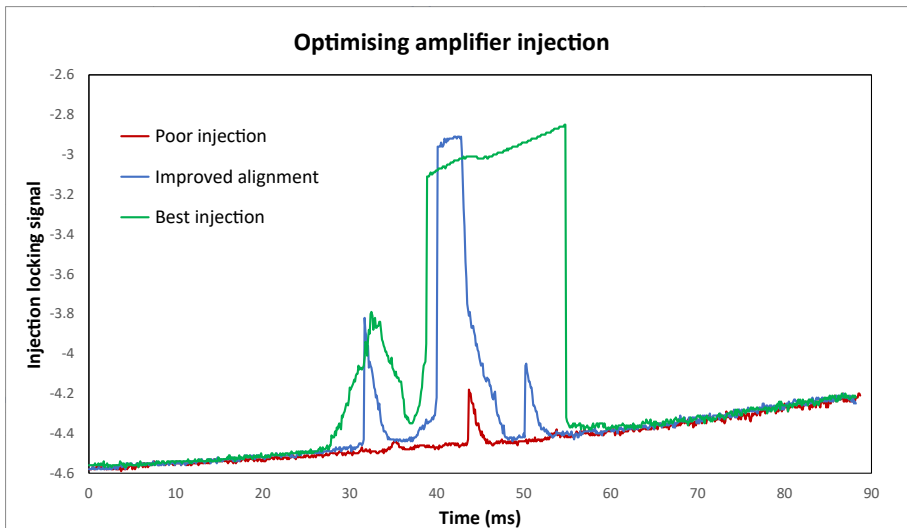

Figure 4.8: Injection locking signals for three different injection angles of the seed beam: poor (red), improved (blue) and fully optimised (green).
4. Make very small horizontal and vertical adjustments to M2 to maximise the height of this step, noting that the step will typically move to the right (higher current) as injection improves, and to the left (lower current) as it degrades. Note also that the vertical axis may autoscale. Refer to figure 4.8 in chapter 4 for an example of how the step feature changes with injection angle.
Figure 4.8 shows the injection locking signal when the amplifier diode is not well-injected (red), when the injection angle is improved (blue) and when the best injection has been achieved (green). As the injection is improved, the locking feature becomes wider and taller.